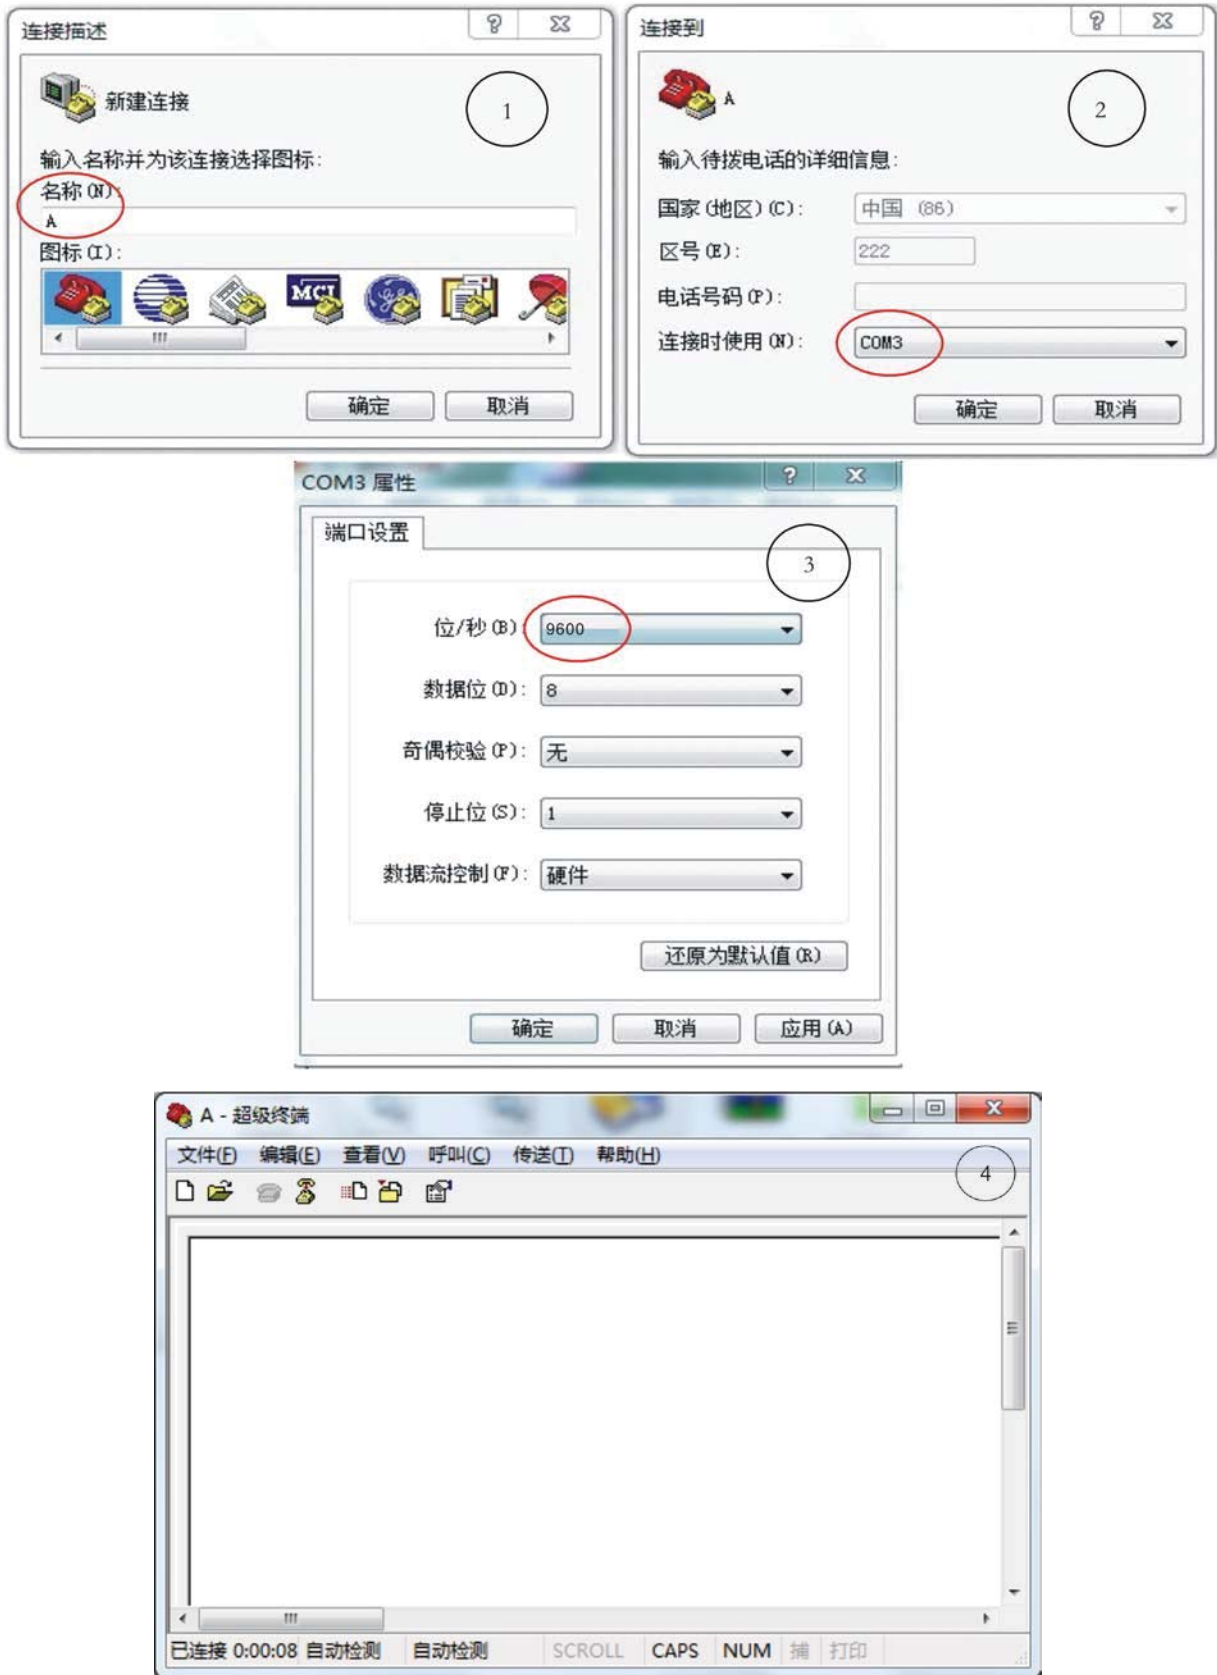

Fig 5-9 Searching for Devices
- 2) Click the small box in front of the [ connect the printer], start signal search function shown as Fig 5-9.